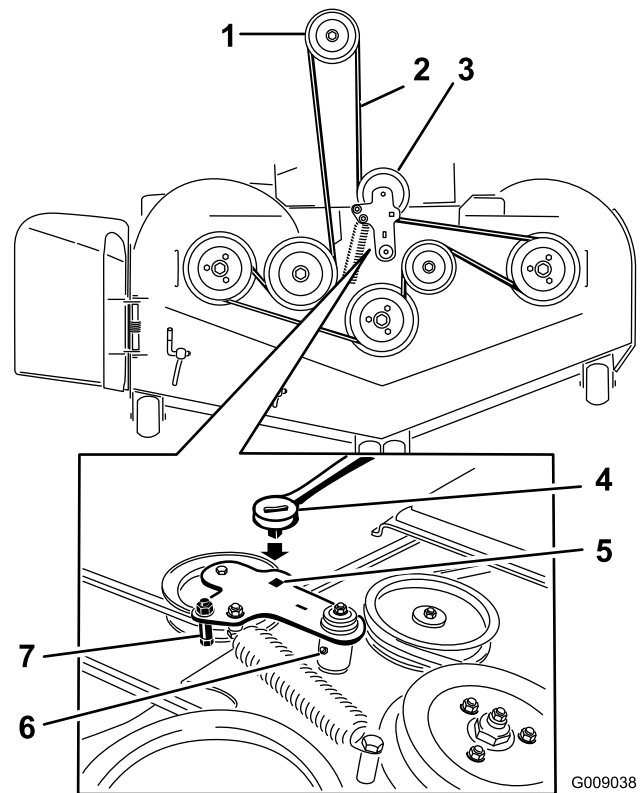

Figure 118
5. Lift up the floor pan and insert a ratchet into the square hole in the deck idler (Figure 118).
6. Rotate the deck idler clockwise and remove the mower belt (Figure 118).